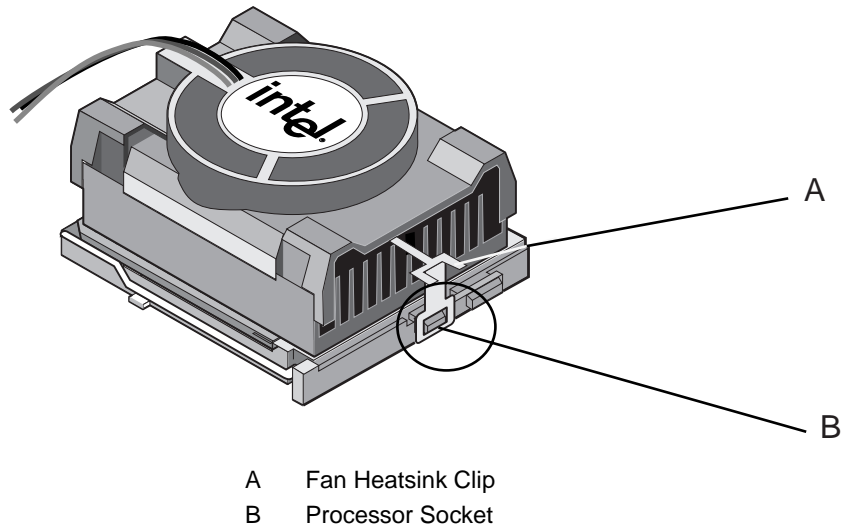

Figure 7. Attaching the Fan Heatsink Clip
6. Attach the fan heatsink clip to the processor socket (see Figure 7).